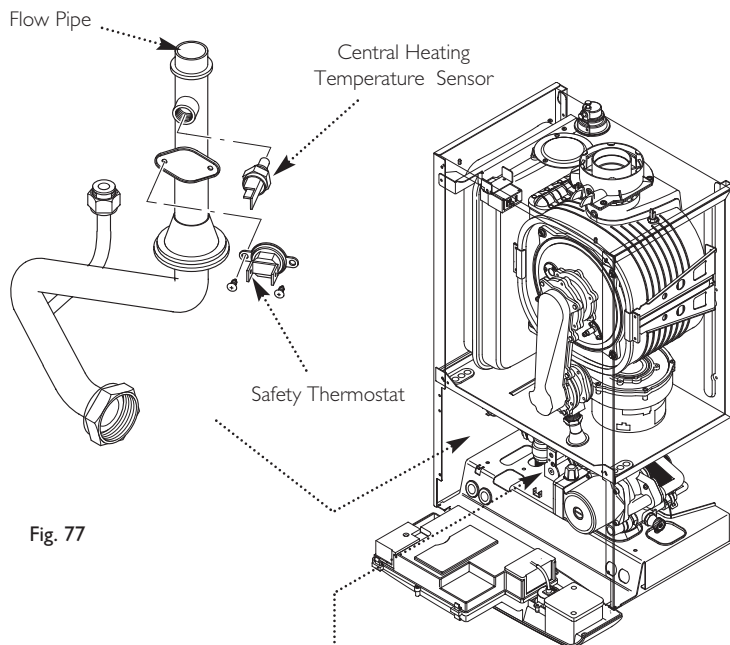

Fig. 77
14.10 Central Heating Temperature Sensor (NTC) (Fig. 77)
14.11 Safety Thermostat (Fig. 77)